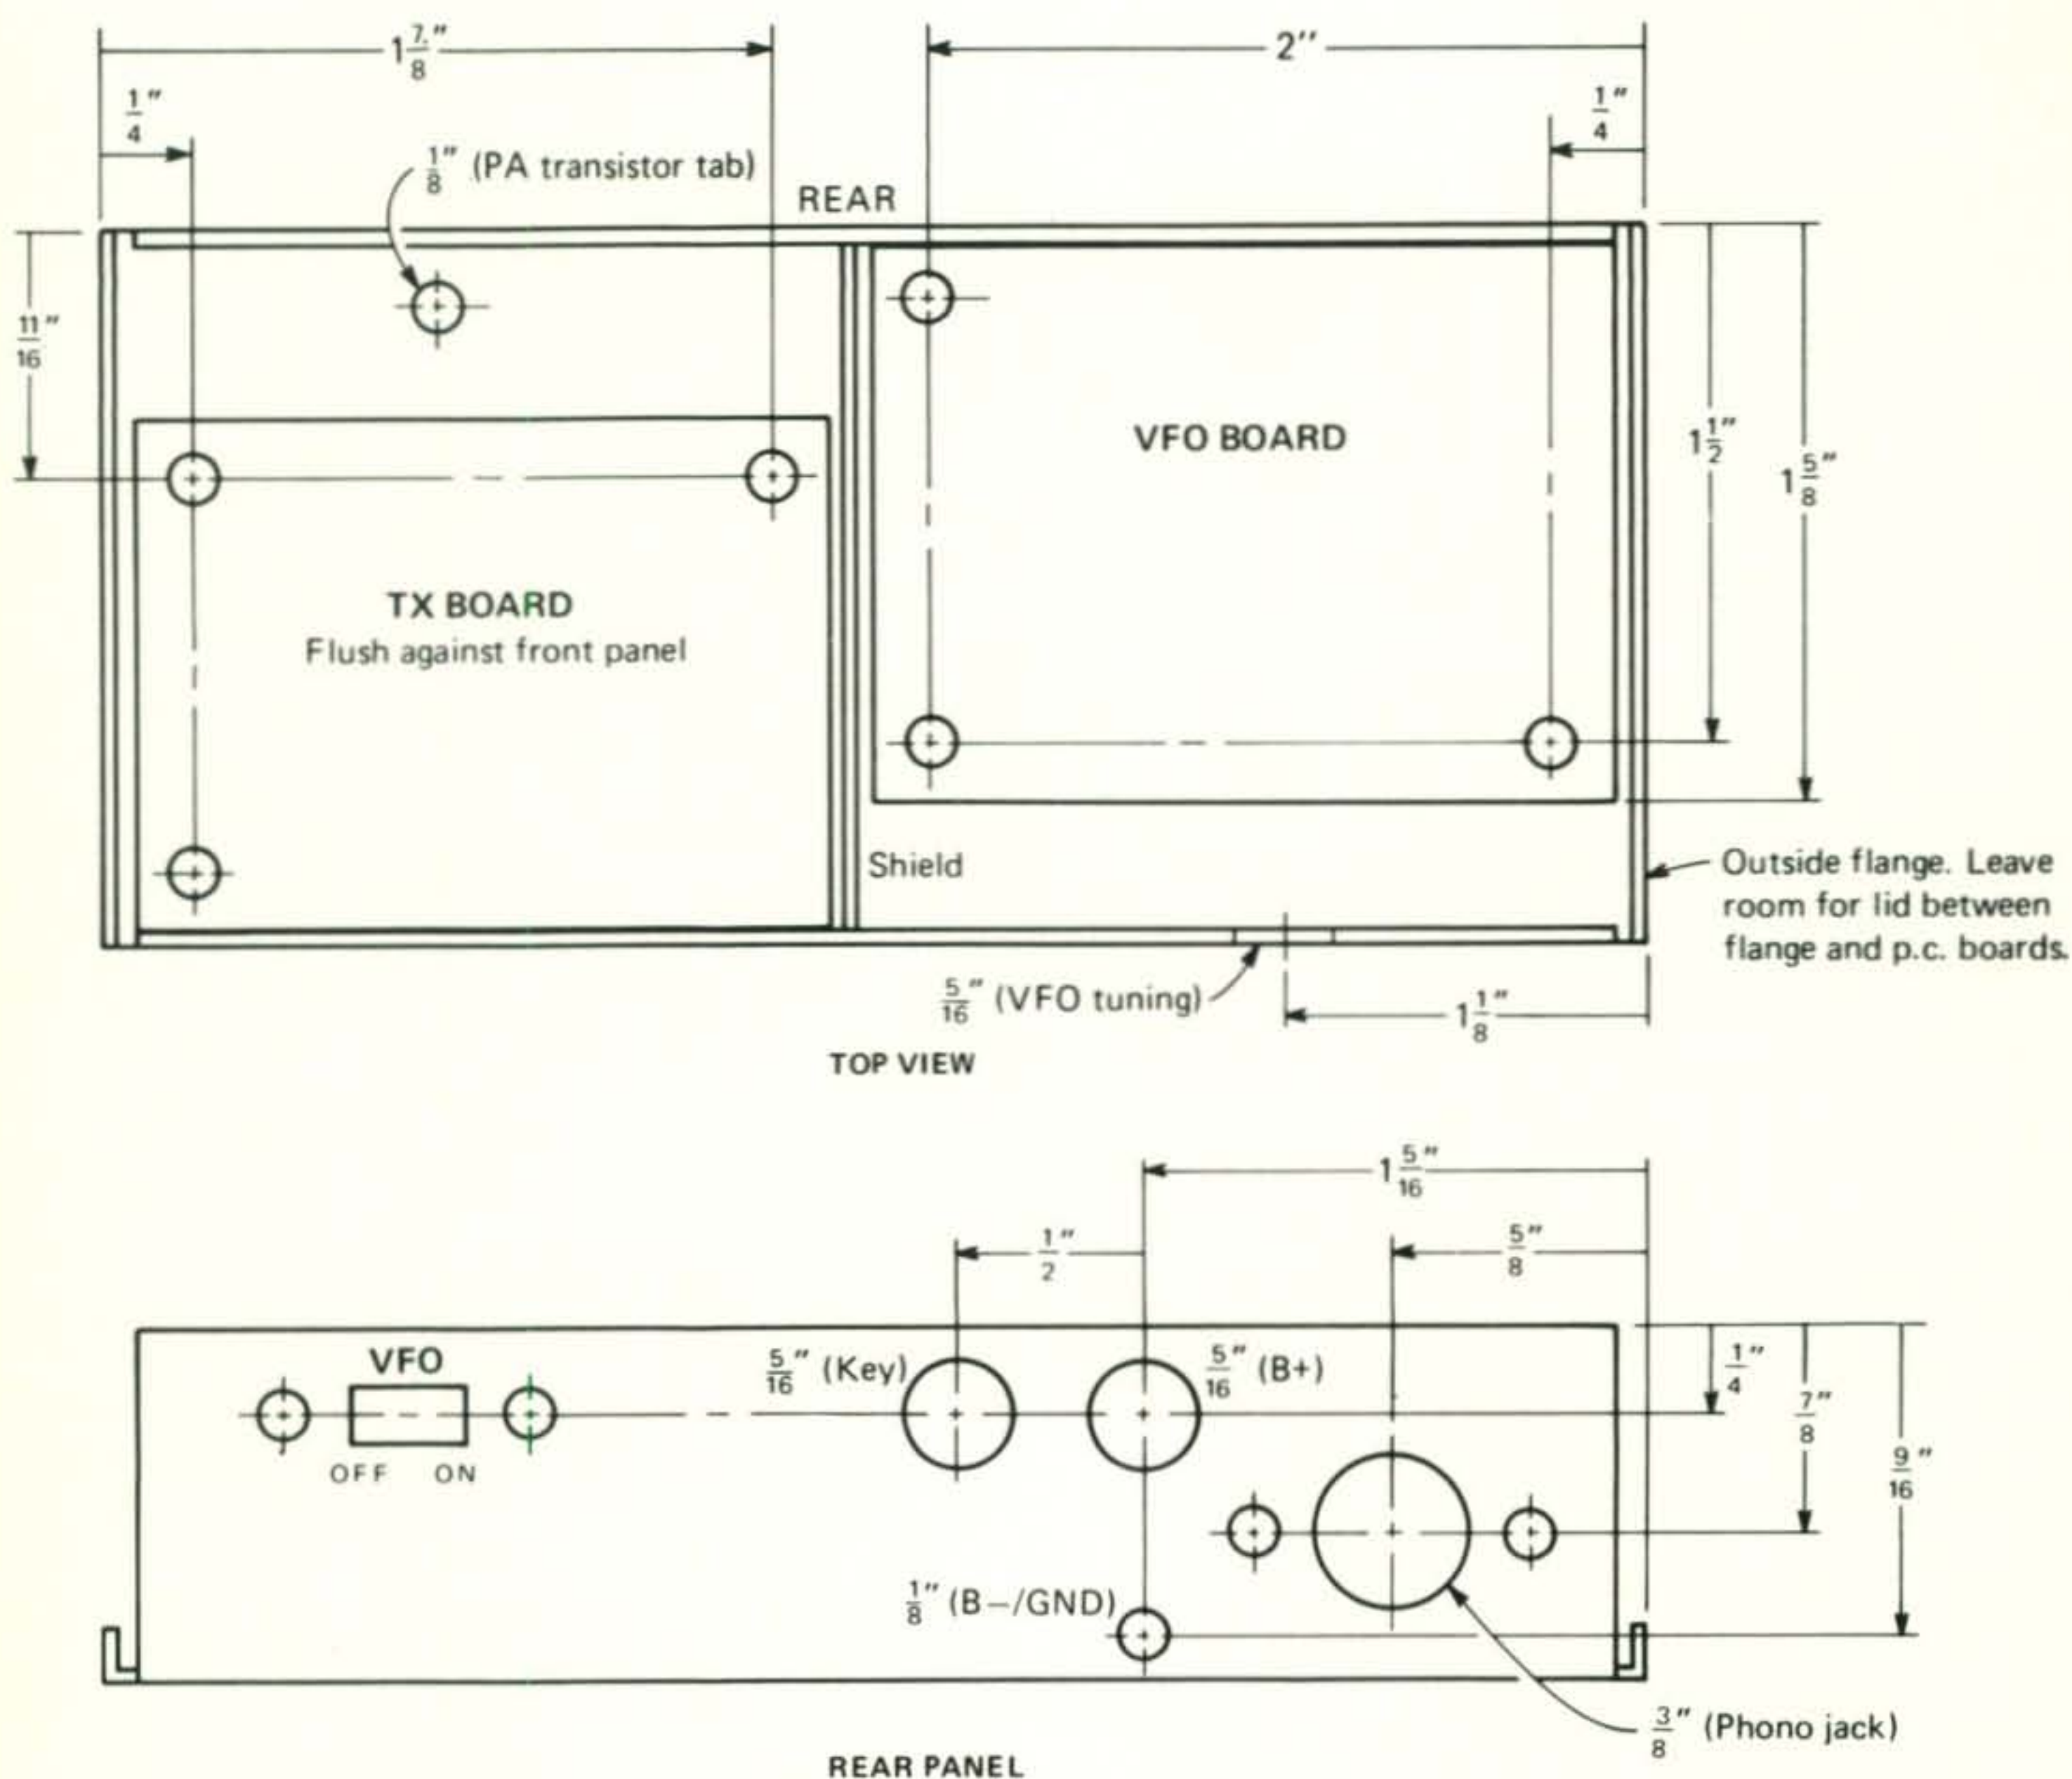

Fig. 1—Approximate dimensions for mounting components, and transmitter layout.
1. Figure 1 shows the approximate locations of the holes for mounting the p.c. boards, variable capacitor, output phono jack, and terminal posts. One-half inch 4/32 screws are used for mounting the boards—three to each board to avoid introducing stress because of uneven spacers. The rear panel posts for B voltage and for key lead are half-inch 6/32 screws—the B+ and key posts are insulated from the box with insulating washers.